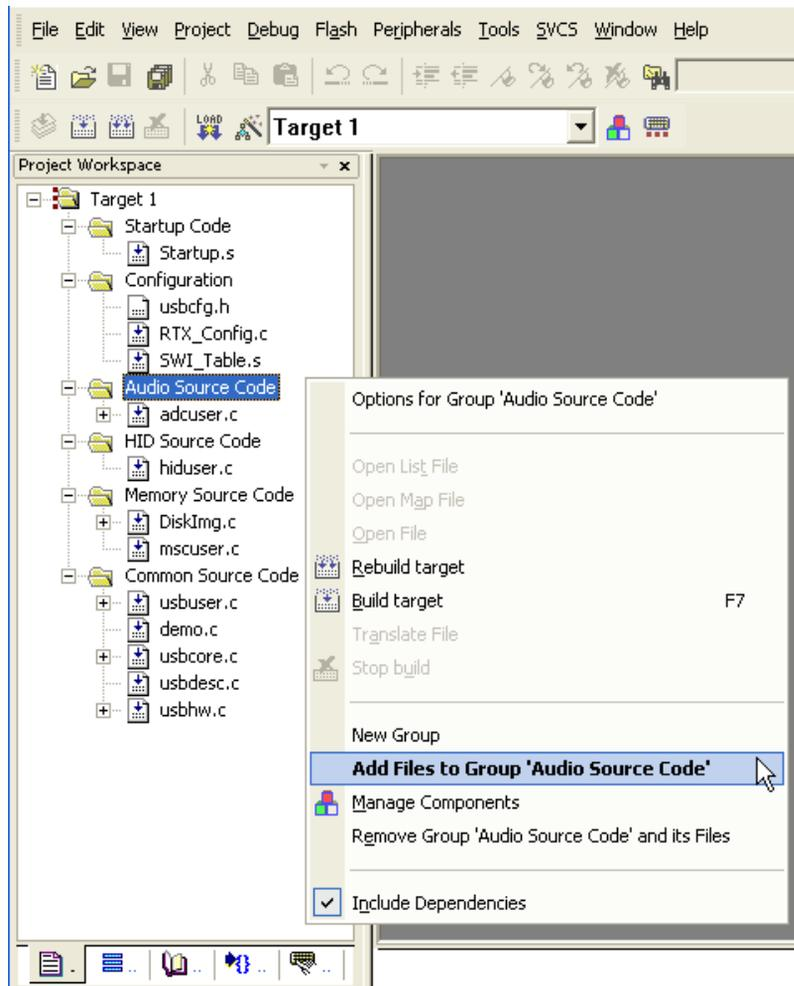

Figure 1-7 Add source files for composite device
11. You now have the complete set of source files in your application folder. Create a new application in μ Vision or open your existing project using μ Vision. Then add all the new `*.c` source files to your project using the **Add Files to Group** option in μ Vision (see Figure 1-7 on page 1-32).